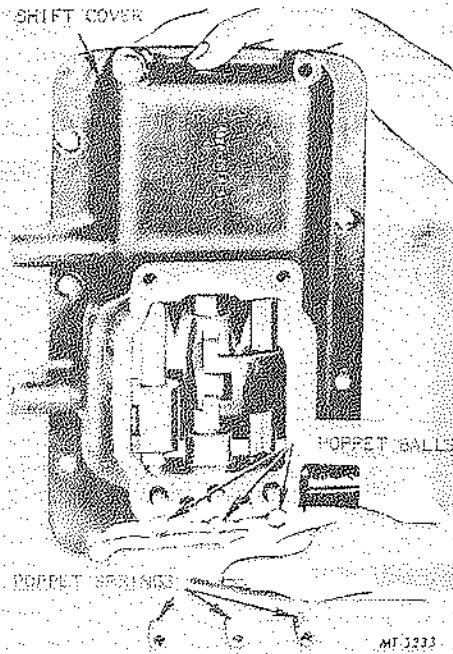

Fig. 13 - Removing Poppet Springs and Balls
Remove poppet springs (4) and poppet balls (3) from shift bar housing (1). See Fig. 13. NOTE: The short poppet spring is for the first and reverse speed shift rail. Remove lock screws (12) from first and reverse speed shift block (11) and shift forks (14, 15 and 16). Drive fourth and fifth speed shift rail out toward the front of the shift bar housing, driving out shift rail thimble (7), and remove shift fork (14).